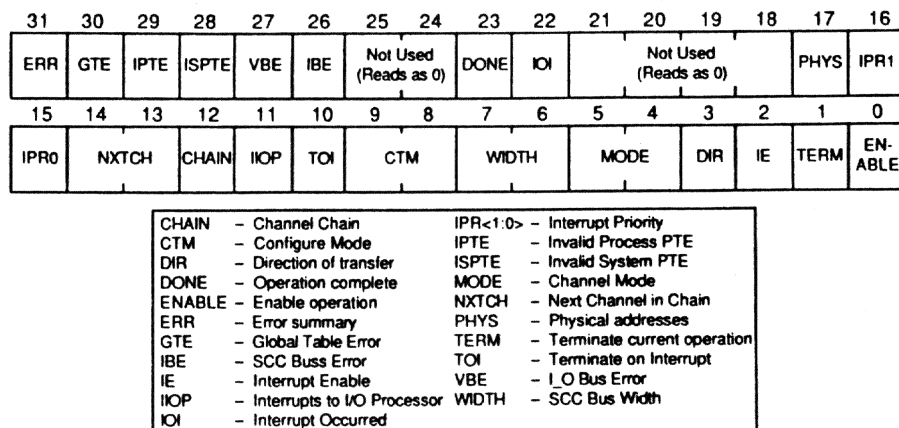

Figure 8-2: The Channel Control Register for the MicroDMA
8.3.3.1 Channel Control Register (DCCTL) - This register controls the operation of the channel. It also provides status information once an operation has completed. Figure 8-2 shows the format of the register. Table 8-4 explains the use of each field.